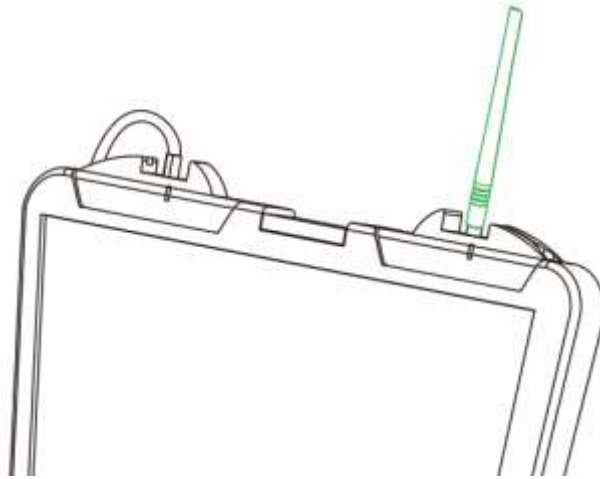

Figure 3-21
- Step 4 Twist the relay antenna into the port on the right of ground station, and adjust it to vertical position, as shown in Figure 3-21.